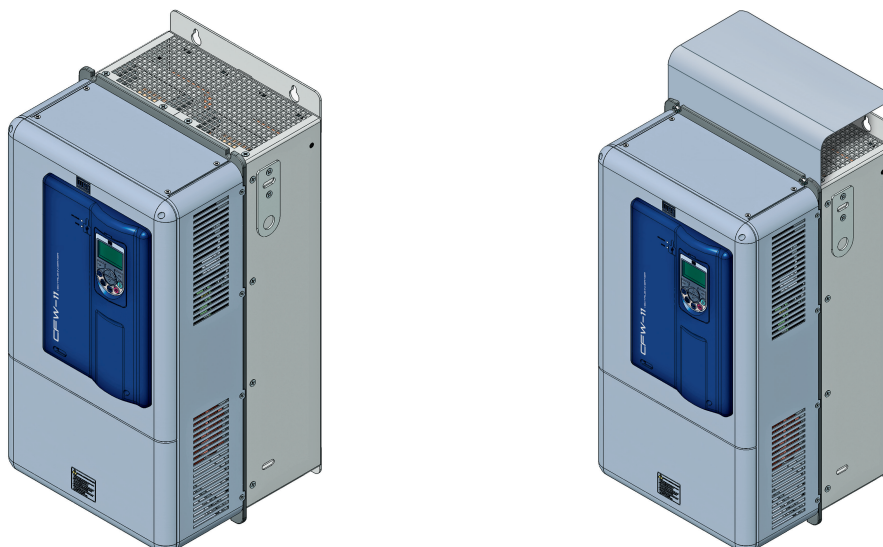

Figure 3.9 - Installation of the Nema1 kit in frame size E model
- ☑ Install the Nema1 kit on the inverter as shown in Figure 3.9 on page 3-11 using the two M8 screws supplied with the product.